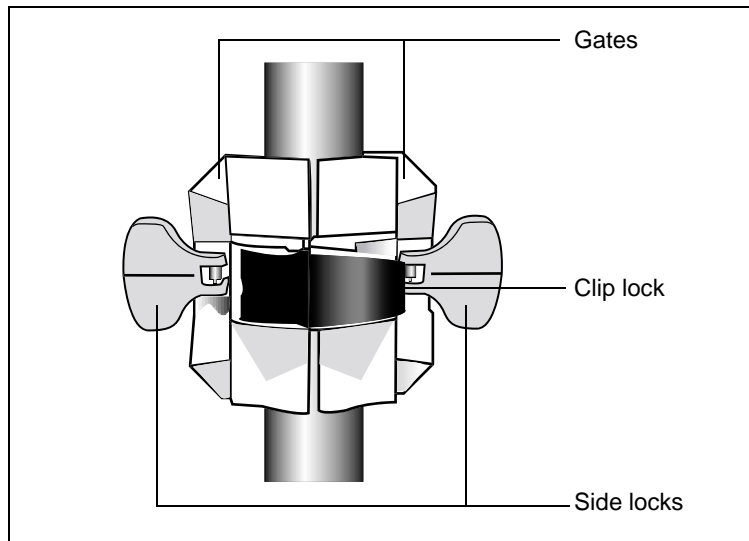

Figure 2.9 5700 receiver bracket
- c. Holding the receiver in the bracket, pull the side locks back to their original positions, as shown in Figure 2.9.